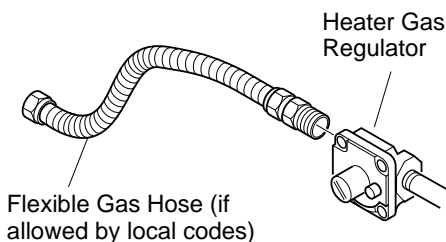

Figure 11 - Attaching Flexible Gas Hose to Heater Gas Regulator
1. Apply pipe joint sealant lightly to male threads of gas fitting (not provided). Connect approved flexible gas hose to gas regulator of heater (see Figure 11, page 11).